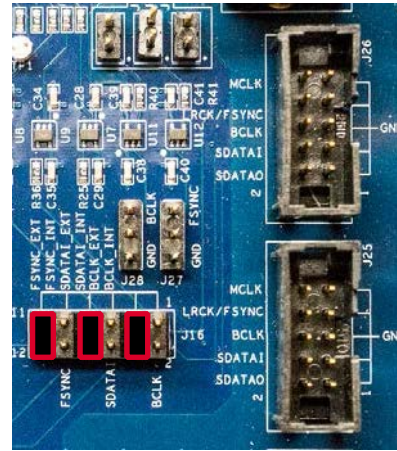
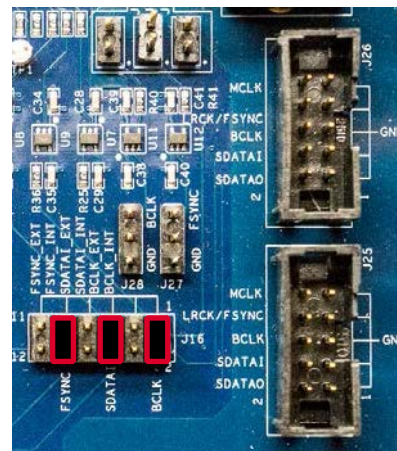

Figure 4. Jumper Configuration for Clock and Data Input from J25 and J26
Figure 5. Jumper Configuration for Clock and Data Input from the SPDIF Receiver
The two connectors are wired together in parallel so that they can be used interchangeably (see Figure 4).
The *EVAL-SSM4567Z* board also supports I²S input from an optical fiber port using the SPDIF format. The jumpers on J16 select the digital input from either the internal SPDIF interface or the external I²S signals from J25/J26 (see Figure 5).
3. Install jumpers on J16 to select the digital audio input to the SSM4567 from either an external source or the SPDIF input. The SPDIF input signals are labeled as INT (internal). See Figure 4 or Figure 5 for details.